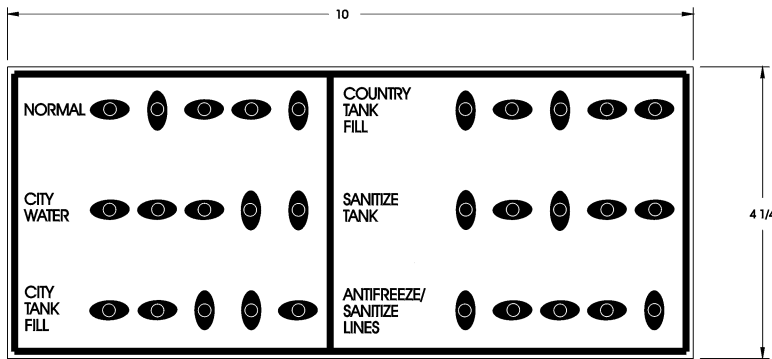

Fig. 4-6
Definition of the Utility Center Label Terms (Fig. 4-6)
4. Position the “Control Valves” on the “Utility Panel” to the “Sanitize Tank” configuration. (Fig. 4-6)
6. After pumping all the chlorine solution into the tank, position the “Control Valves” to the “City Fill” configuration. (Fig. 4-6)